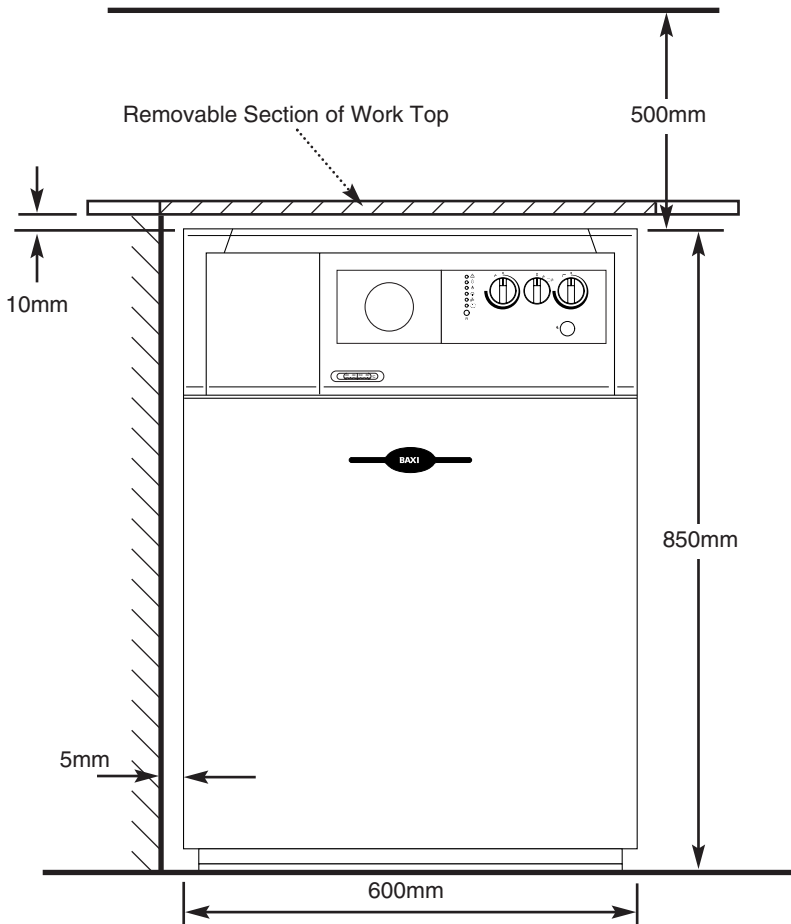

Fig. 22
4.1 Clearances around the Boiler (Figs. 22 & 23)